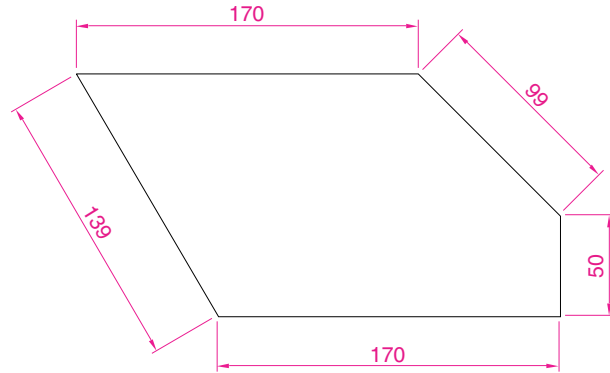

Fig. 6.6 Second example – **Aligned Dimension**
Second example – **Aligned Dimension (Fig. 6.6)**
1. Construct the outline in Fig. 6.6 using the **Line** tool.